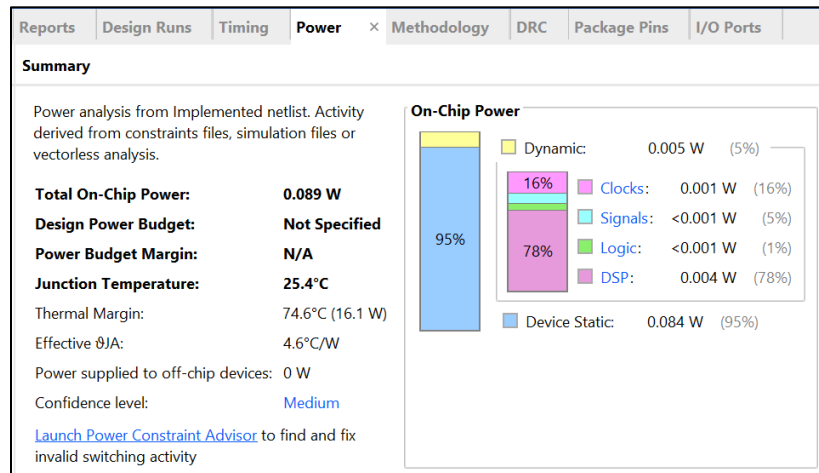

Figure 23: Power report from Vivado Project
- 3-17.** If you need to run FPGA synthesis and implementation manually in Vivado and/or want to see other details of synthesized and/or implemented design and/or perform bit file generation with valid pin-mapping constraints, you can open the created Vivado Project inside the `hdl_prj` folder using the Xilinx Vivado tool to proceed further. You can also check the power report of the design after running the implementation in Vivado (Figure 23).